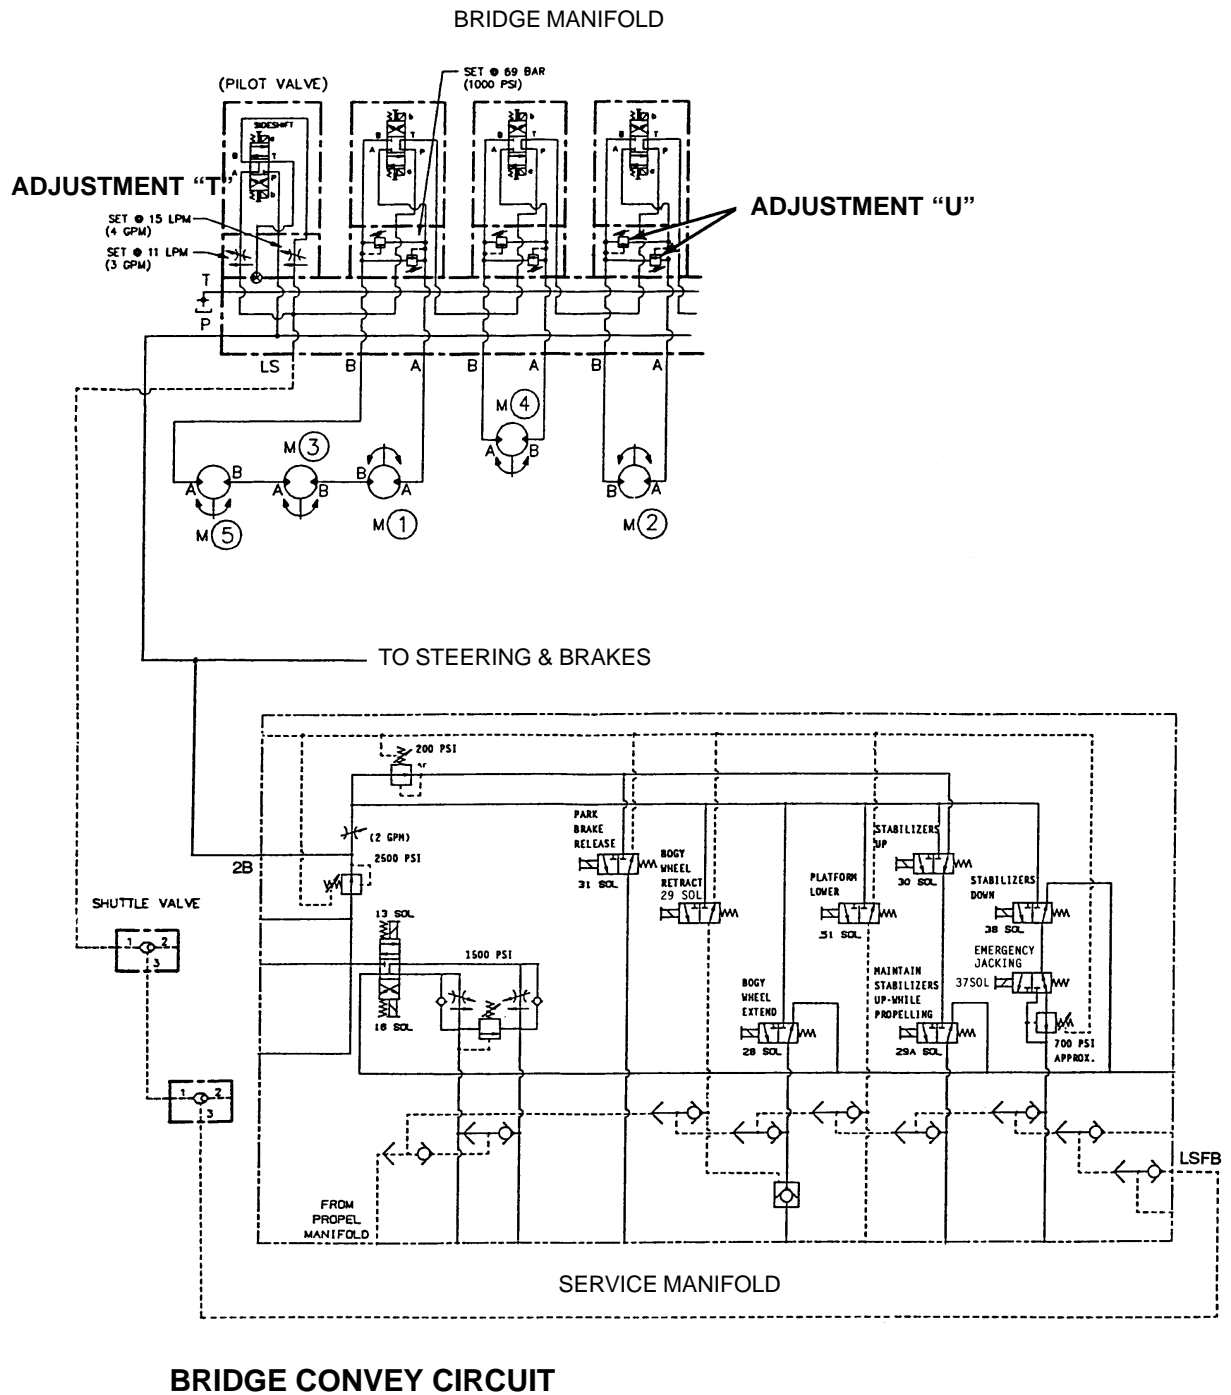

Figure 25
- (6) Clean up any hydraulic oil that has leaked.
- (7) Swing power unit closed and secure with retention bolt.
T. Bridge Convey Speeds (Figure 24, Figure 25)
NOTE: Flow control adjustment is located in manifold block below 63SOL solenoid valve (Figure 24, Figure 25).
NOTE: Side transfer speed is 30 feet per minute (19-21 rpm). Side transfer adjusting screw is located in manifold block below 59 solenoid valve (Figure 24, Figure 25).
- (5) Clean up any hydraulic oil that has leaked.
- (6) Swing power unit closed and secure with retention bolt.
U. Bridge Convey Crossover Relief Valves (Figure 24, Figure 25)